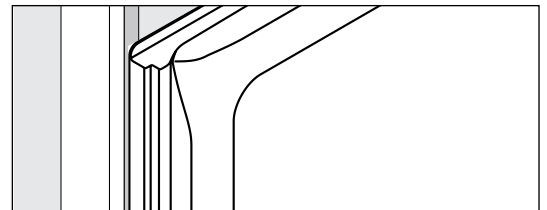

FIGURE 4. All panels must fully contact required studs.
- All panels must fully contact required studs as shown on page 1. (Fig. 4)